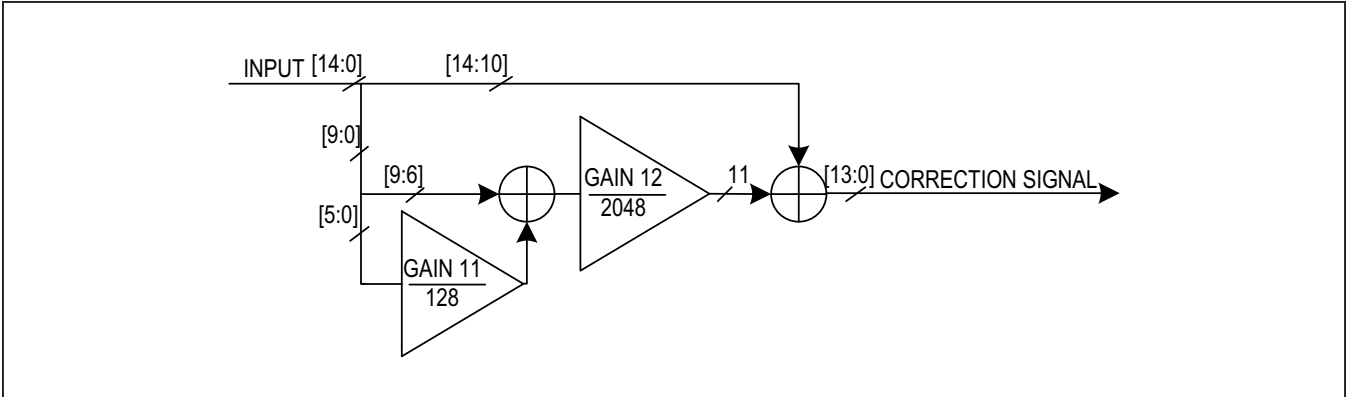

Figure 25. Static Linearity Correction Block
- Static linearity correction: Corrects for deterministic gain error in 9 LSBs. Improves ACP by 1dB to 1.5dB and improves the DAC wideband noise floor by 2dB to 3dB. See Figure 25.
The static linearity correction block is shown in Figure 25. This block sits on the output of the DPD and directly drives the RF DAC. The algorithm has two user-programmable gains to adjust the LSB to MID segment boundary and the MID/LSB to MSB segment boundary. Gain 11 has a programmable range from 96 to 144 ($\text{<register value>/128}$, 128 ± 16 , reset value 128) and gain 12 has a programmable range from 1920 to 2176 ($\text{<register value>/2048}$, 2048 ± 128 , reset value 2048). Gain 11 and Gain 12 have registers for storing the user defined values.